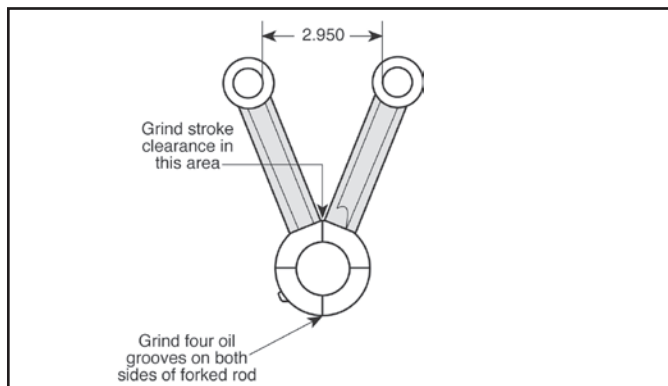

Figure 4
- A. To insure adequate oil on sides of rods and matching thrust surfaces of flywheels, S&S recommends that four grooves be ground on each side of both front and rear connecting rods. **See Figure 4, below.** Make these grooves .020" to .030" deep and .030" to .040" wide and should be ground 90° from each other. After making grooves, remove all sharp edges and burrs with emery cloth.
- B. With rods assembled, measure distance between rods at closest points in wristpin holes. If measurement exceeds 2.950" as shown in **Figure 4, below**, grind female rod at points where male rod makes contact to achieve sufficient clearance.